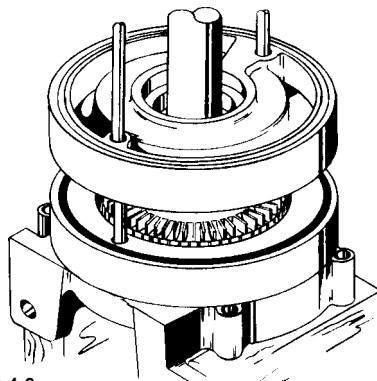

Figure 4-6
7. Slide a right hand channel ring (#9) onto the guide rods with the water channel facing downward, toward the impeller.(refer to figure 4-6) The small outlet opening should be in the "one o'clock" position. This completes one stage; a stage consisting of one left hand channel ring (#10), a right hand channel ring (#9), and an impeller (#11) between them.